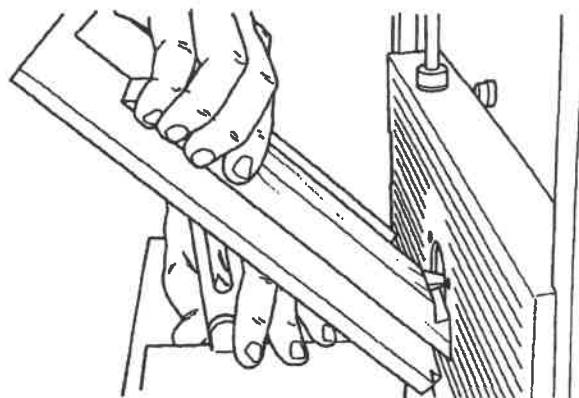
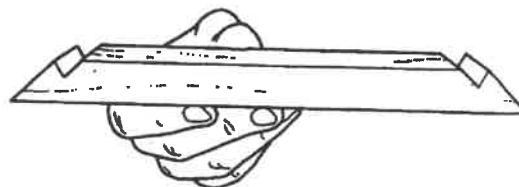

Fig. E-18
Fig. E-19
31. Place the brace board in the bevel miter gauge, as in Fig. E-18. Raise the bit so that when it cuts, the bottom of the bit will cut exactly at the bottom edge (or heel) of the brace. If you are not sure you have the proper setting, you can set the bit to cut just a little above the edge (or heel), then lower the bit in 1/2 turn increments and make additional passes.
32. Turn on the Dust Collector and router. Make the cut as in Fig. E-18. If you have the correct height of the bit, make a cut on the other end of the brace. After cutting both ends of the brace, turn off the router and Dust Collector. Fig. E-19 illustrates the top of the pin cut on both ends of the brace.